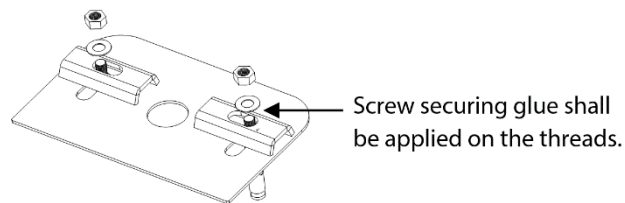

Figure 3-4
3. Place the mounting plate properly, then apply screw securing glue on the surface and threads of the expansion bolts, install four expansion bolts to secure the mounting plate, and use a horizontal ruler to test the levelness of the mounting plate. If the mounting plate is not levelled, adjust it with the gaskets provided. Note that all the four expansion bolts must be installed properly, as shown in Figure 3-4.